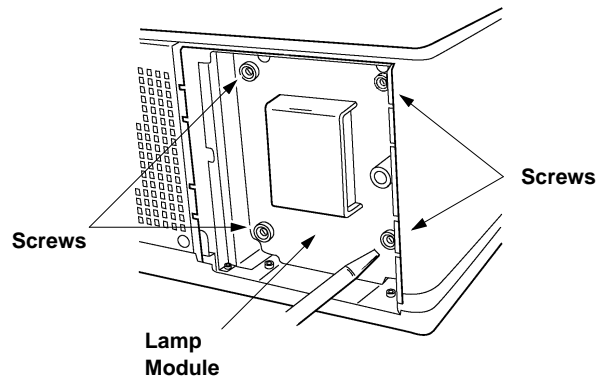

Figure 6-2. Lamp Module Retaining Screws
**Retaining Screws:** Use a standard screwdriver to unscrew the lamp module retaining screws (Figure 6-2).
Tighten the lamp module retaining screws to secure the lamp module in place (Figure 6-2).